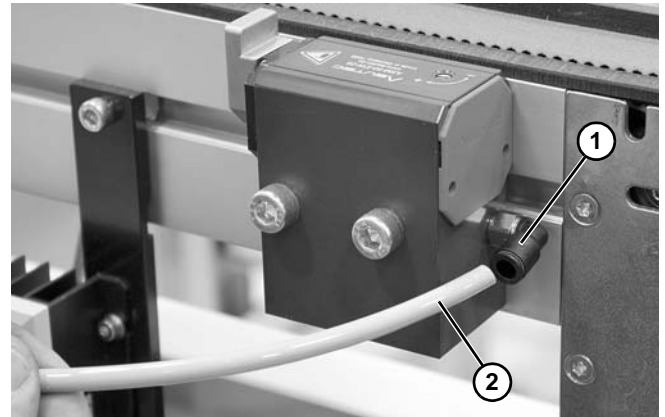

Figure 60
1. Connect the 3-port 2-way solenoid valve to the stop. Dorner fittings (**Figure 60, item 1**) accept 1/4" outside diameter tubing standard (**Figure 60, item 2**).